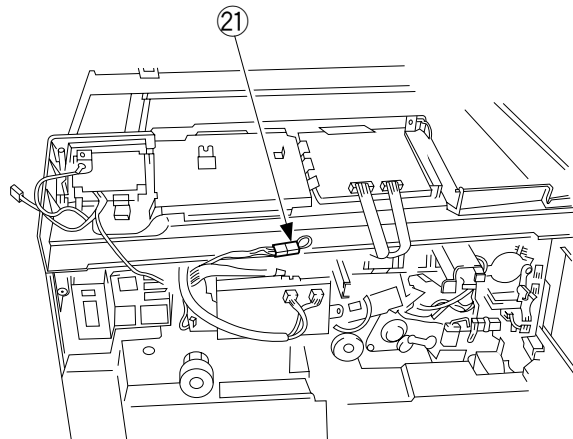

Figure 9-415
15) Disconnect the shorting connector ㉑ shown in Figure 9-415.